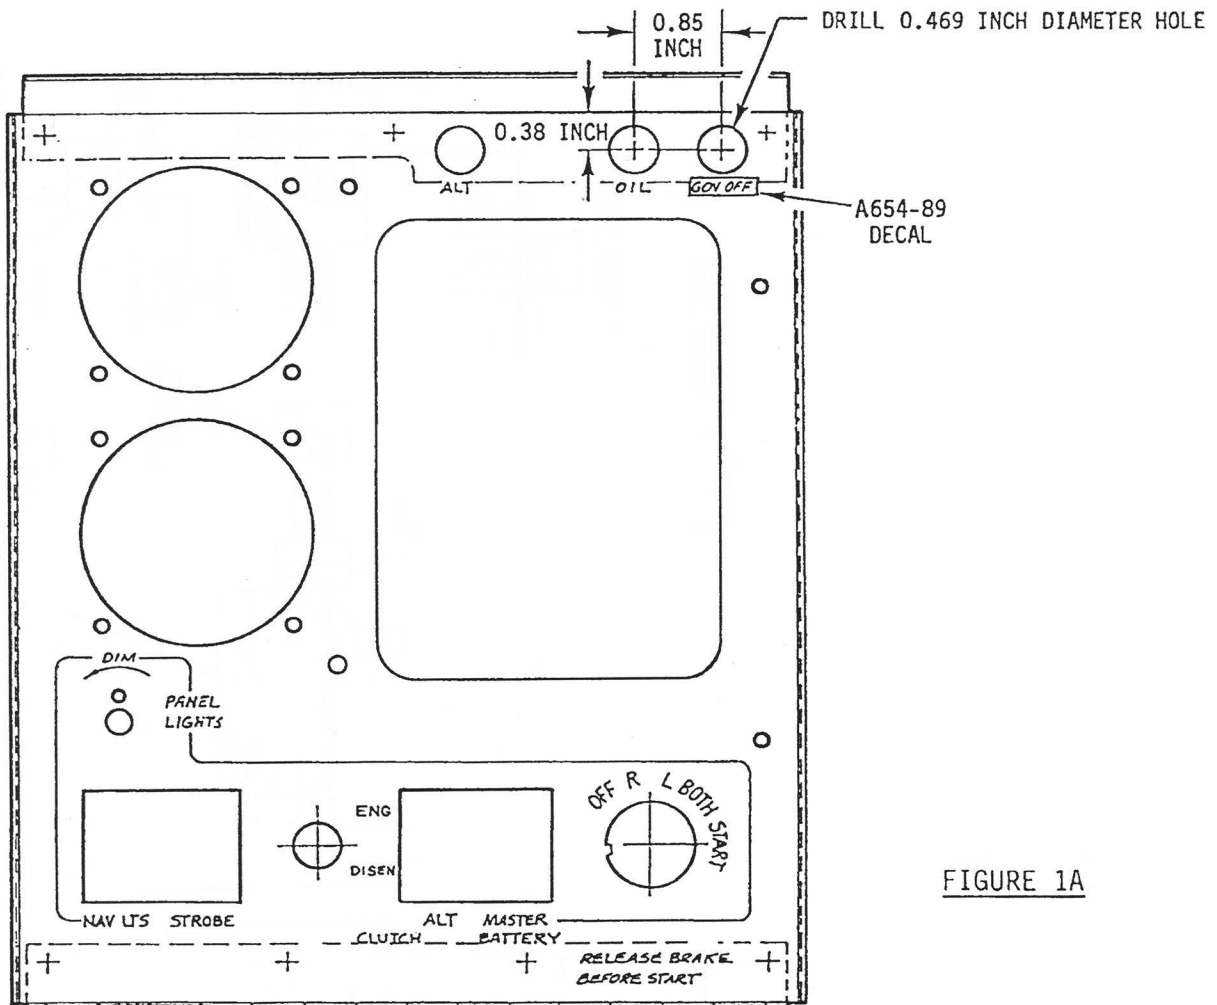

FIGURE 1A
Reference Figure 1A (or Figure 1B if equipped with ten-hole instrument panel). Locate and drill one 0.469 inch diameter hole in face. Remove any drilling debris and deburr hole. Locate and install A654-89 decal.
2. Reference Figures 1A (or 1B, as applicable) and 2. Install B049-5 light assembly into 0.469 inch diameter hole.